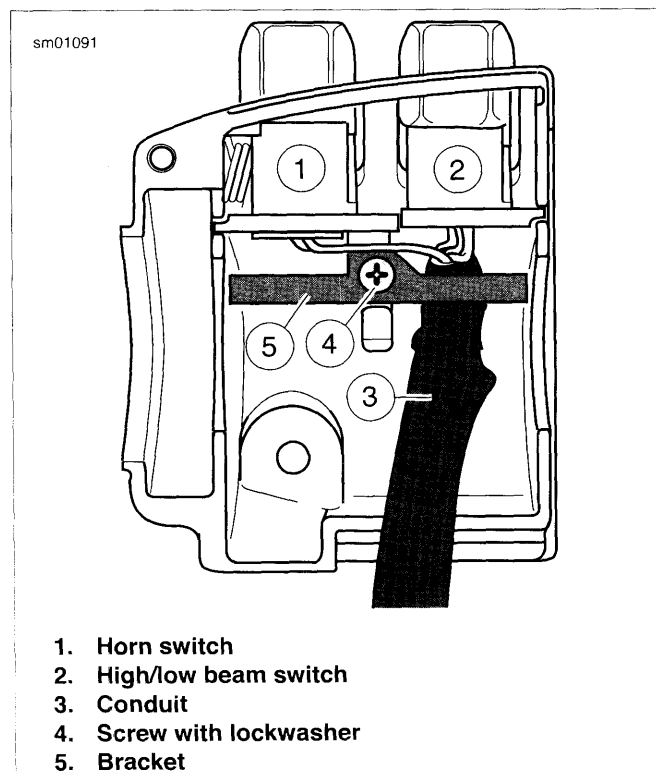
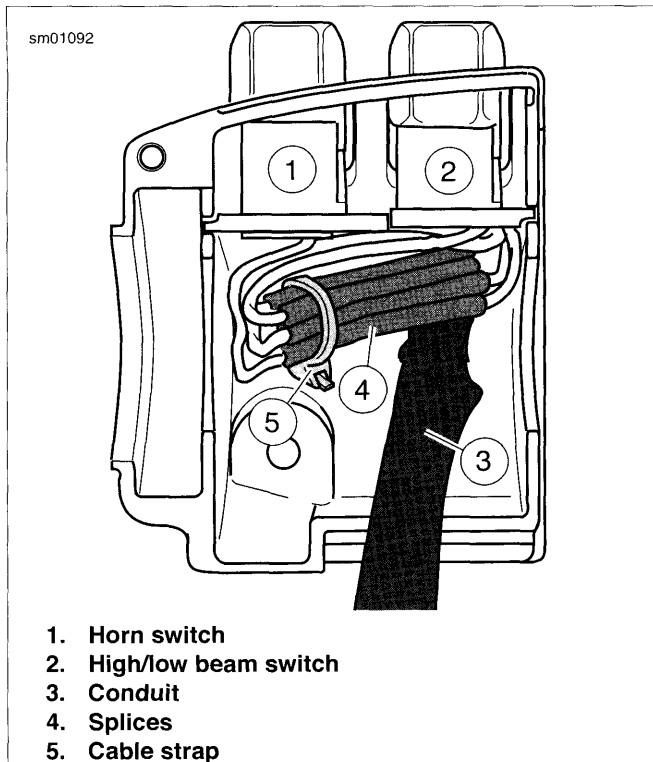

Figure 6-139. Upper Housing Without Splices
Figure 6-140. Upper Housing With Splices
1. See Figure 6-139. From inside the switch housing, remove the screw with lockwasher (4) to release the bracket (5). Remove bracket and switch assembly from the housing.
2. Move cable conduit (3) from beneath wing of bracket. Cut wires 0.25 in. (6.4 mm) from old switches (1, 2). Discard old switch and bracket assembly.
3. Slide conduit forward over cut ends of switch wires and cut off 0.5 in. (12.7 mm) of conduit (3) material. Push conduit back to access switch wires.
4. Separate the **new** horn switch (1) and high/low beam switch (2) wires into two bundles.
6. Loop switch wires so that spliced lengths are positioned as shown in Figure 6-140. Route wires downstream of splices beneath wing on high/low beam switch side of bracket as shown in Figure 6-139.
7. See Figure 6-140. Install a **new** 7.0 in. (177.8 mm) cable strap (5) beneath wing on horn switch side (1) of bracket and capture wire splices (4).
9. See Figure 6-139. Install screw and lockwasher (4) to secure bracket (5) inside housing. Verify that wing on high/low switch (2) side of bracket captures edge of conduit (3) as shown.